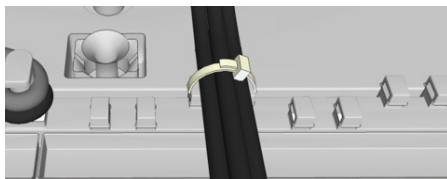

Figure 3
4. Route the cables from the sensor to the MCU, avoiding non-insulated conductors and contact with any sharp edges that may abrade the insulation. Fix the cables securely to the installation and the MCU (see Figure 3).